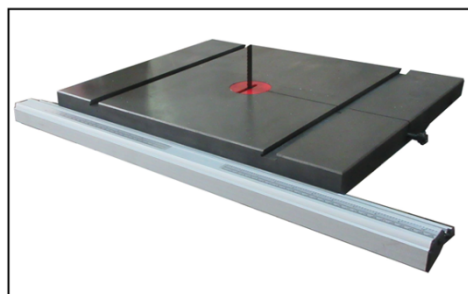

Figure 5-17
1. Fence rail is preinstalled on the table from the factory as shown in figure 5-17.